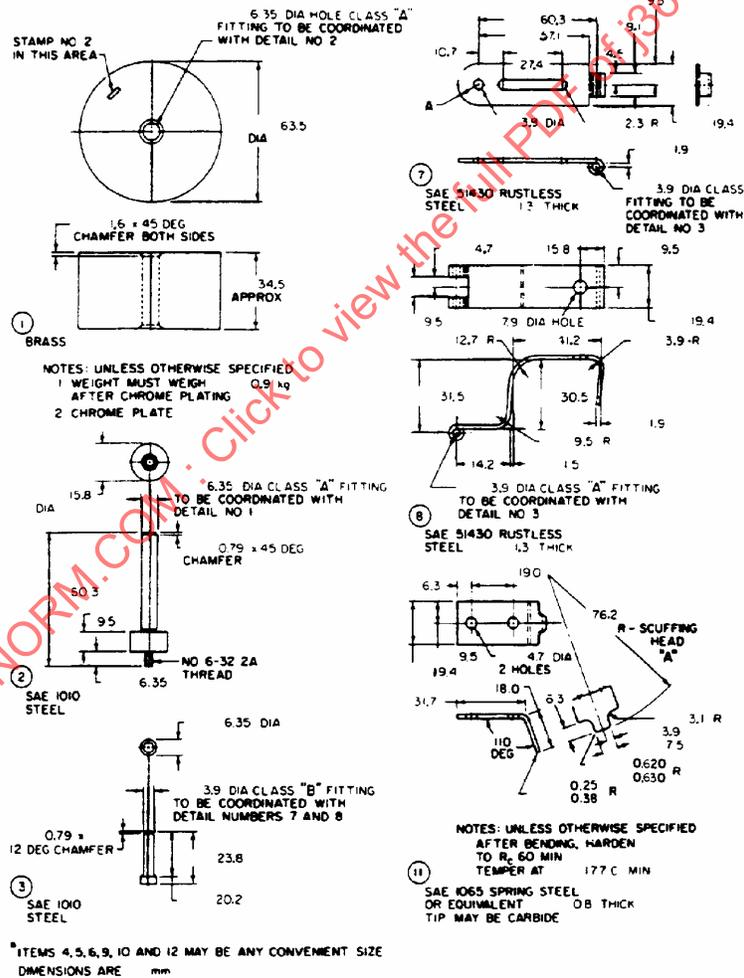
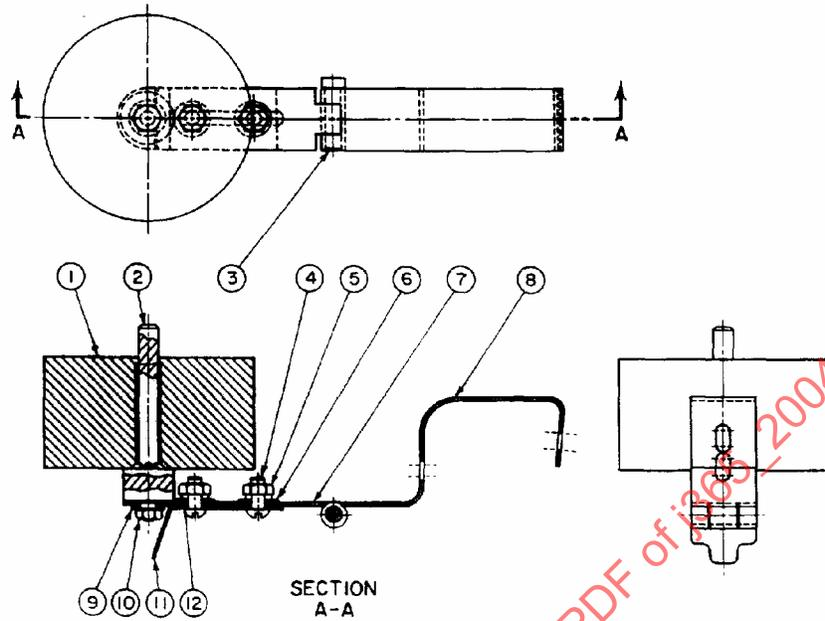
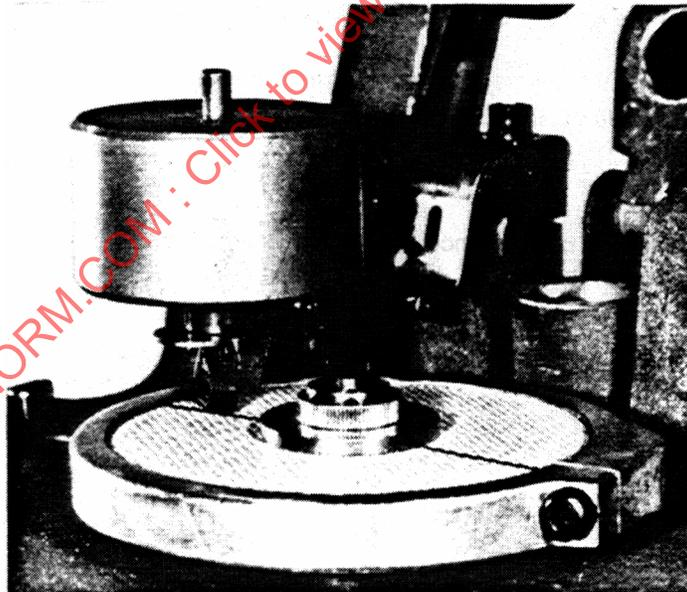

FIGURE 1—COMPONENTS OF SCUFFING ASSEMBLY
FIGURE 2—ASSEMBLY OF SCUFFING TEST FIXTURE
FIGURE 3—ATTACHMENT OF SCUFFING TEST FIXTURE TO ABRADER
The special scuff fixture head, weight, and other components are shown in Figure 1 and are assembled as shown in Figure 2. The scuff fixture is attached to the abrader as shown in Figure 3. The scuff head is held at a 110 degree angle. The vertical centerline of the scuff head is 32 mm from the specimen holder center pin. The tip is centered under the 0.9 kg weight and in a horizontal alignment with the center pin as shown in Figure 3.
NOTE—The attachment bracket shown in Figure 1, detail 8 may be modified for other abrader models, provided the scuff head position is maintained and test results correlate.
The scuff head tip shown in Figure 1, detail 11 must be frequently checked for dimensions and reground or replaced if found to deviate from the specified tolerances.
(SEE FIGURE 1 FOR EXPLANATION OF NUMBERS)
- f. Place the assembled test specimen on the abrading machine and lower the scuff fixture onto the test specimen as shown in Figure 3.
- d. Place the assembled test specimen on the abrading machine and lower the scuff fixture onto the test specimen as shown in Figure 3.